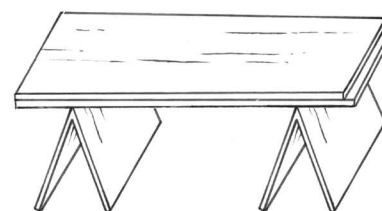
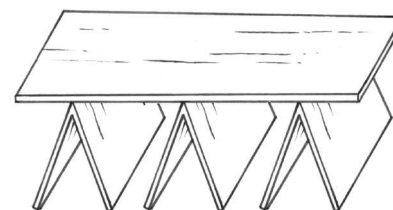

Figure 13
Figure 14
Suppose you have another sheet of corrugated cardboard with which you can make the table stronger. You can add the sheet as a second table top, as shown in Figure 13. Or you can cut the extra sheet in two pieces and make another A-frame support for the middle of the table, as shown in Figure 14.
- 5. Which way of using the extra sheet will help the most to make the table stronger: the way shown in Figure 13, or the way shown in Figure 14?